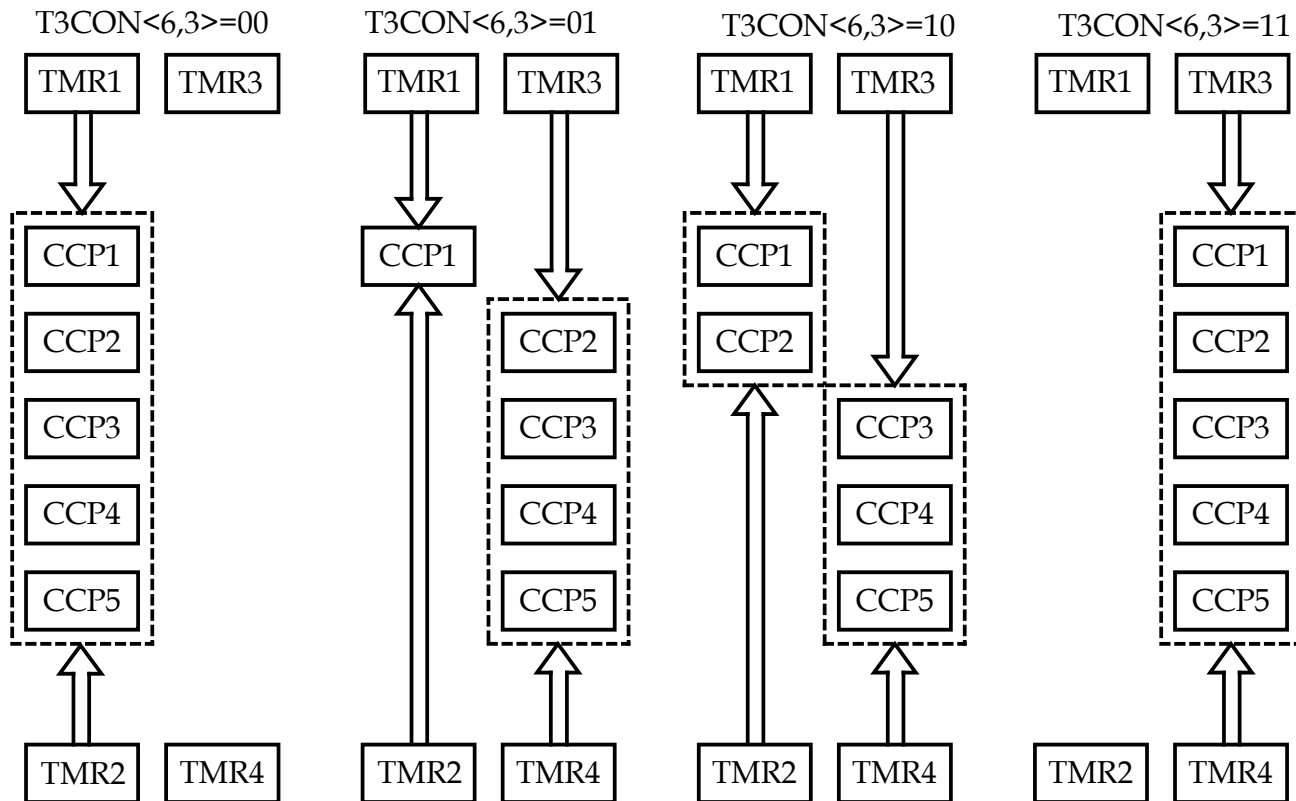

Figure 8.11 CCP and Timer interconnect configurations (redraw with permission of Microchip)
- The assignment of a particular timer to a module is determined by the bit 6 and bit 3 of the T3CON register as shown in Figure 8.11.